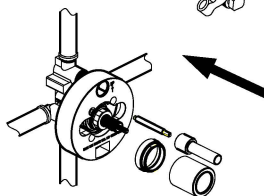

Fig .4
C. Rotation the lift bar&cap and bonnet&cap on the body (see Fig.4)